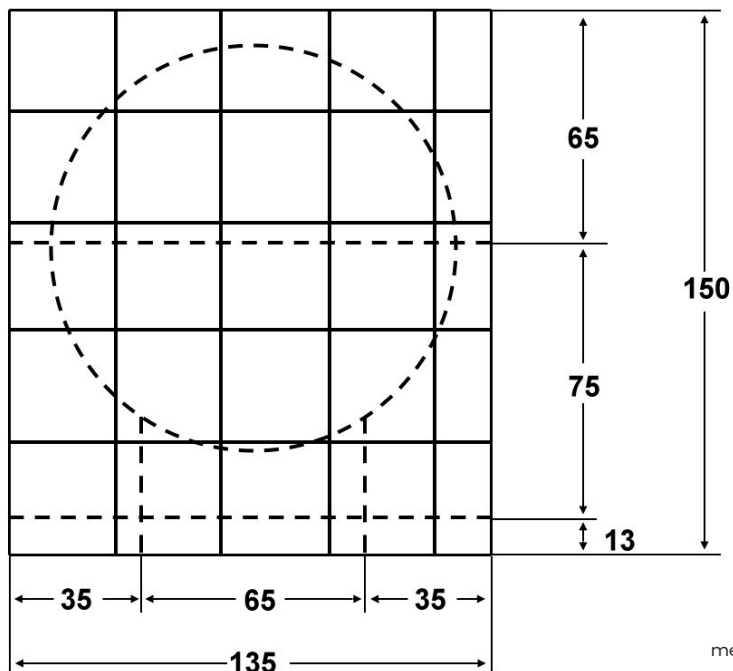

Figure 1
Step 2, figure 1: Build a concrete slab measuring at least 170 (width) x 170 (depth) x 20 (thickness) cm (W165xD165x20 cm for insulation with vermiculite concrete) and let it dry for at least 28 days. Create a thin bed of lean mortar (2 to 3 cm thick) using standard cement. Follow the configuration depicted in picture 1 to place the 25 base slabs moistened beforehand on top of the mortar bed. Make sure they are properly aligned and that the top surface is leveled. No joint mortar is required. Remove any excess mortar from around the base. Using string and chalk, create a circular outline with a diameter of 110 cm (as indicated by the dotted line). **Allow the floor to dry for 24 to 48 hours before proceeding.**